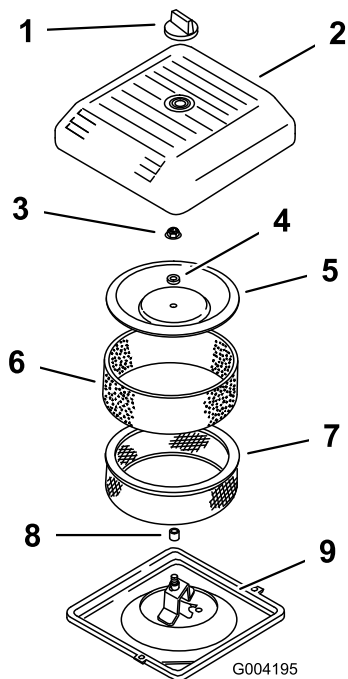

Figure 155
3. Unscrew the knob and remove the air-cleaner cover (Figure 155).
4. Carefully slide the foam pre-filter off the paper element (Figure 155).
5. Unscrew the cover nut and remove the cover, spacer, and paper filter (Figure 155).